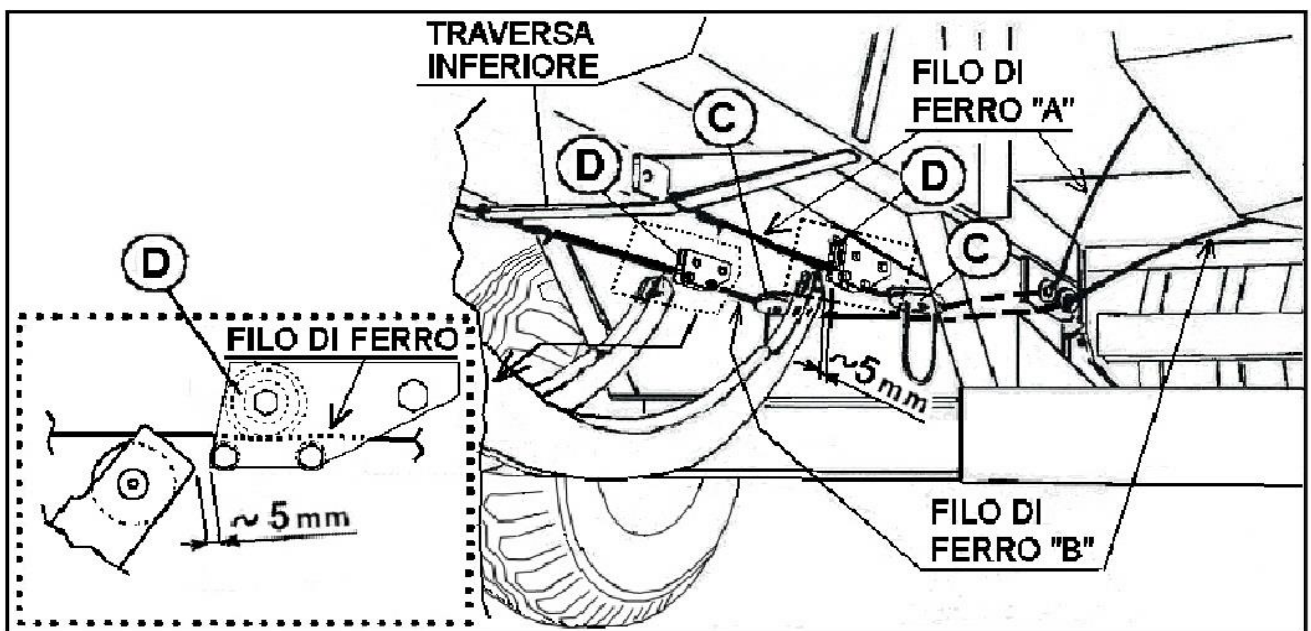
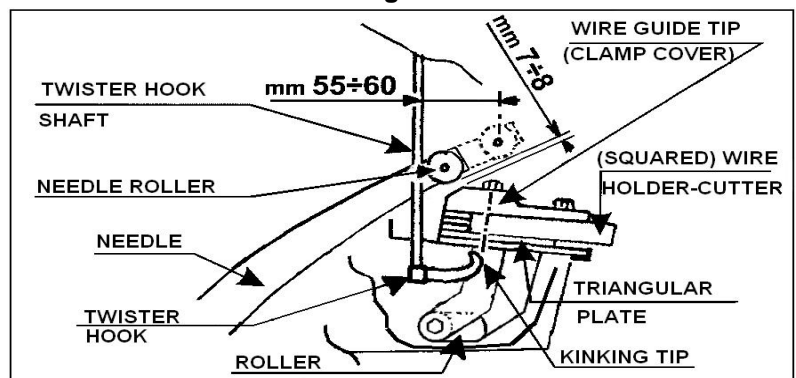

Fig.22
Fig. 24
3. Tie the ends of the wire to the bottom cross member (bar) of the baling chamber (Fig. 22).
When the needles reach the end of their course, the distance between the centre of the needle roller and the twister hook shaft must be 55-60 mm (Fig. 24). To carry out this adjustment use the needle arm adjustable fork connection (n° 3 Fig. 22 bis).
Fig. 22 bis